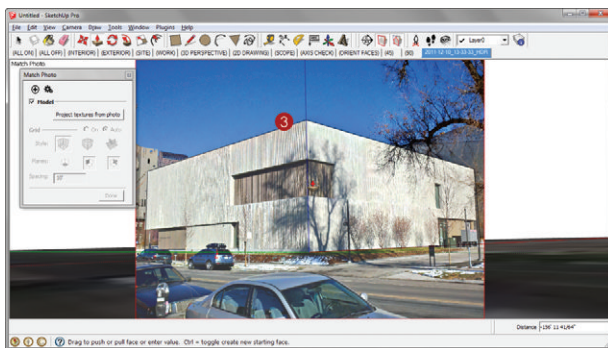

Figure 16.15 Align the top of the model with the top of the building in the photograph.
3. Move your cursor down until the top of the 3D building mass is aligned with the top of the building in the photograph (Figure 16.15). Click to finish the Push/Pull command.